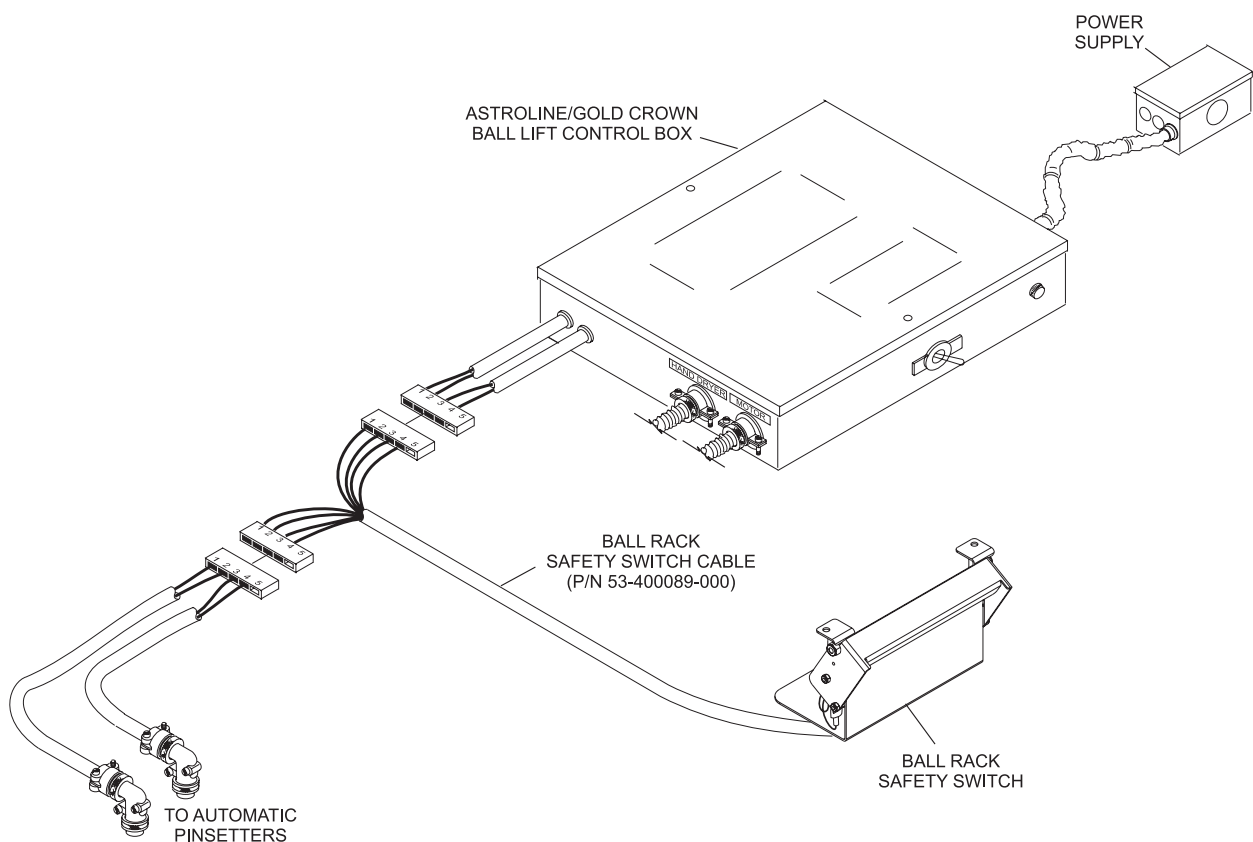

Figure 4
8. Install safety switch cable (P/N 53-400089-000) by connecting it to the control box and the automatic pinsetters. Refer to *Figure 4*.